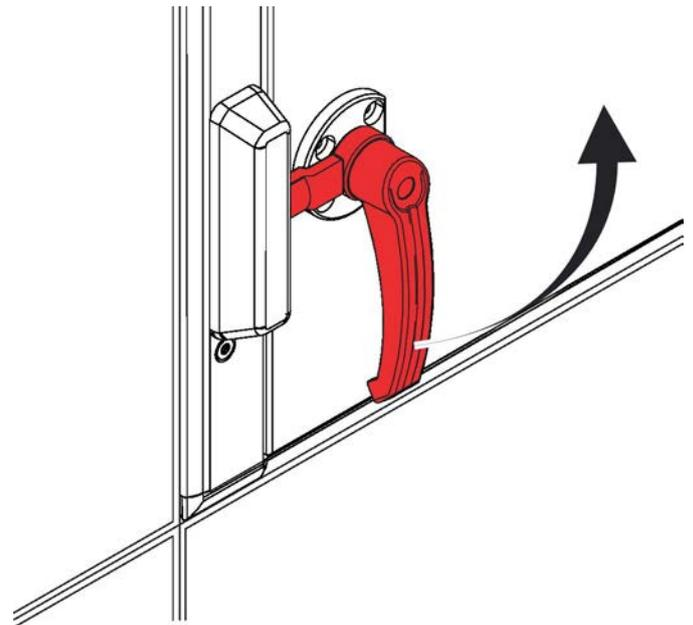

Fig. 40: Opening a door lock
- ▶ Turn the door handle anti-clockwise by 90° (Fig. 40).